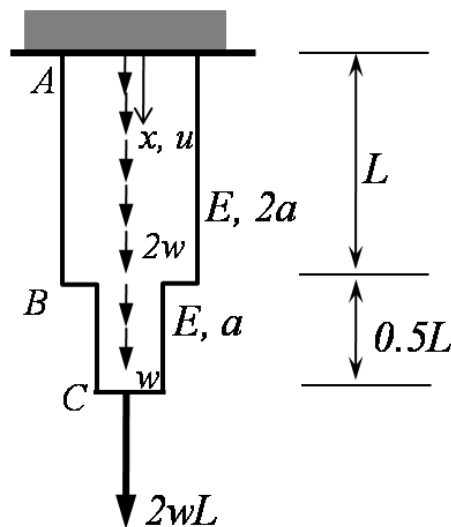

Figure 5
- (3). **Figure 5** shows a stepped bar which is fixed at one end. Length of portion AB and BC of the bar is L and $0.5L$, respectively. Elastic modulus of the bar is E and cross-sectional area of portion AB and BC is $2a$ and a , respectively. The bar is subjected to a uniformly distributed load $2w$ and w per unit length for portion AB and BC, respectively. Apart from that, a concentrated load $2wL$ acts at the lower end C of the bar. Using piece-wise Rayleigh-Ritz method, derive the expression for axial displacement u . Divide the bar into two portions and assume linear displacement field for each portion. Express u in terms of point displacements at the ends of each portion. Show clearly all the steps involved in the derivation.